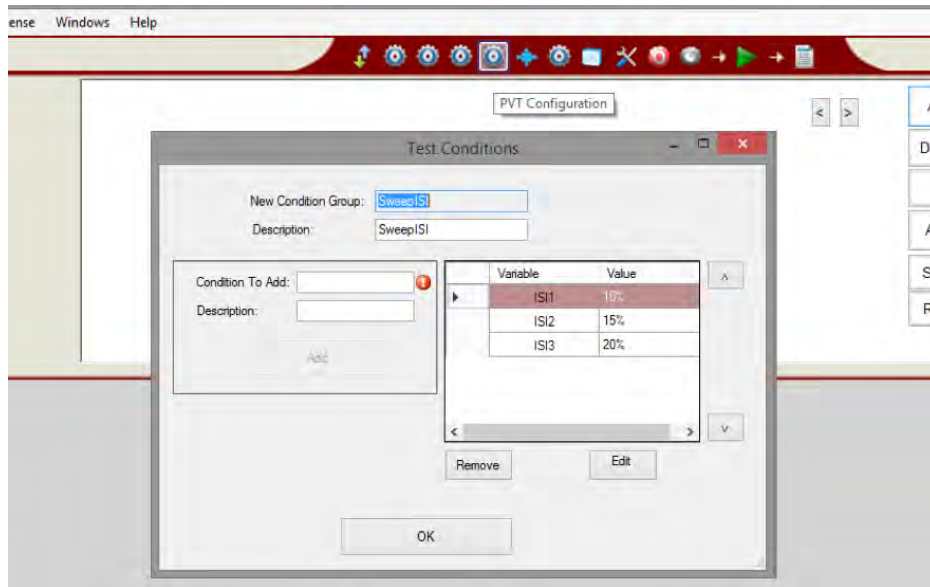

FIGURE 110 ADD SECOND PVT PARAMETER
4. Add a second parameter. See Figure 110., which adds 'SweepISI', with three values, each expressed as a percentage.